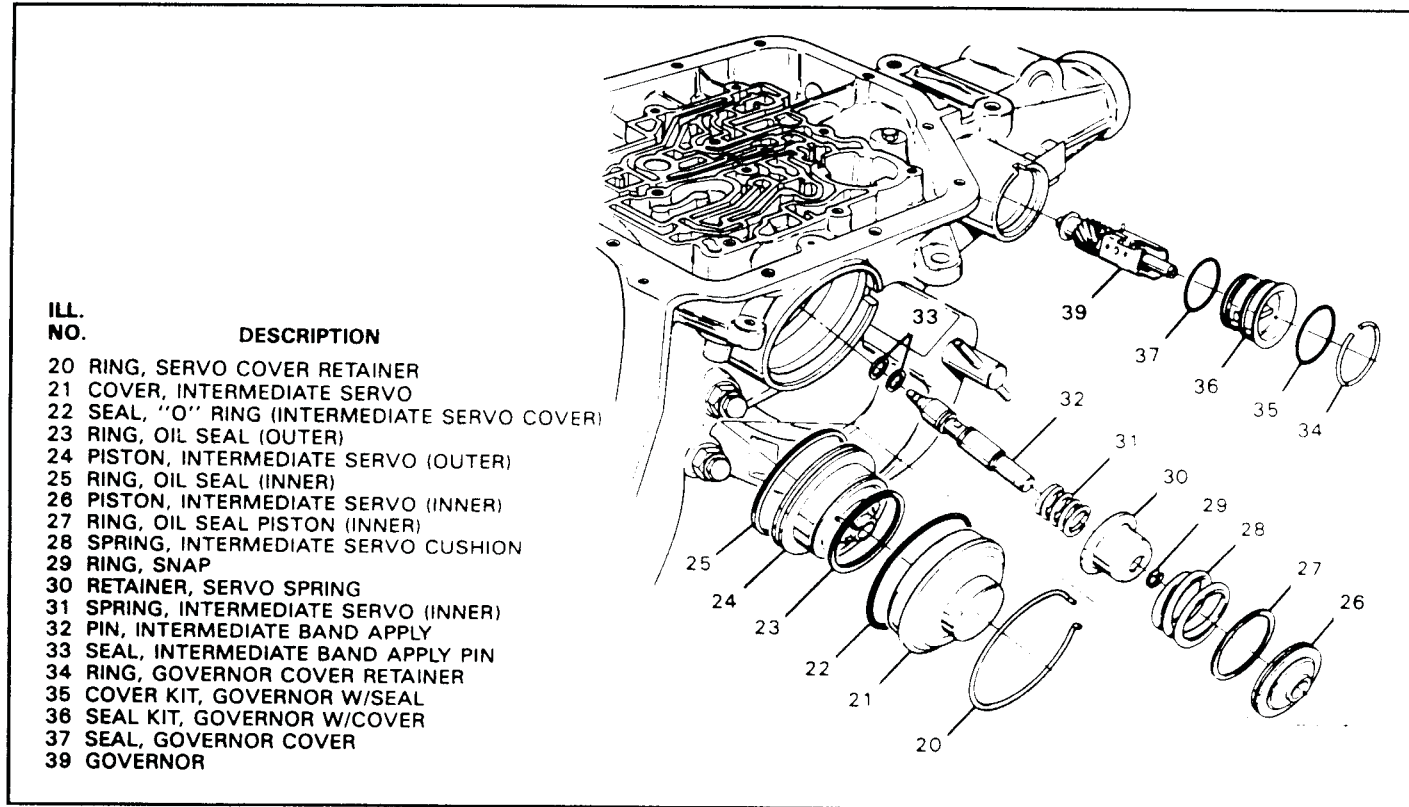

Figure 35
11. Remove the intermediate servo assembly from the case servo bore (See Figure 35).
18. Remove the governor cover retaining ring from the case (See Figure 35).
19. Remove the governor cover and both seals, as shown in Figure 35.
20. Remove the governor assembly from the case, as shown in Figure 35. It may be necessary to turn the output shaft counterclockwise to remove the governor.